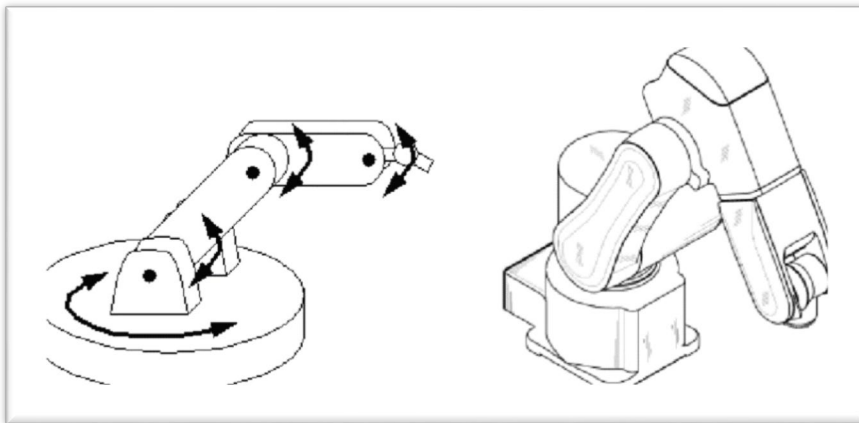

Figure 1- Sample Robot Arm
1. Robotic arm should has minimum 4 degrees of freedom (DoF). The number of DoF can be increased optionally (example figure 1)